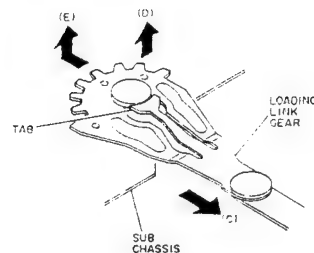

Fig. 2-58
- 2) Move the take-up loading link gear in the direction of arrow (C). (See Fig. 2-58)
- 3) Hold the tab of the take-up loading link gear using tweezers, etc. and lift the link gear in the direction of arrow (D), then remove the link gear in the direction of arrow (E).
- 2) Move the supply loading link gear in the direction of arrow (C). (See Fig. 2-58)
- 3) Hold the tab of the supply loading link gear using tweezers, etc. and lift the link gear in the direction of arrow (D), then remove the link gear in the direction of arrow (E).